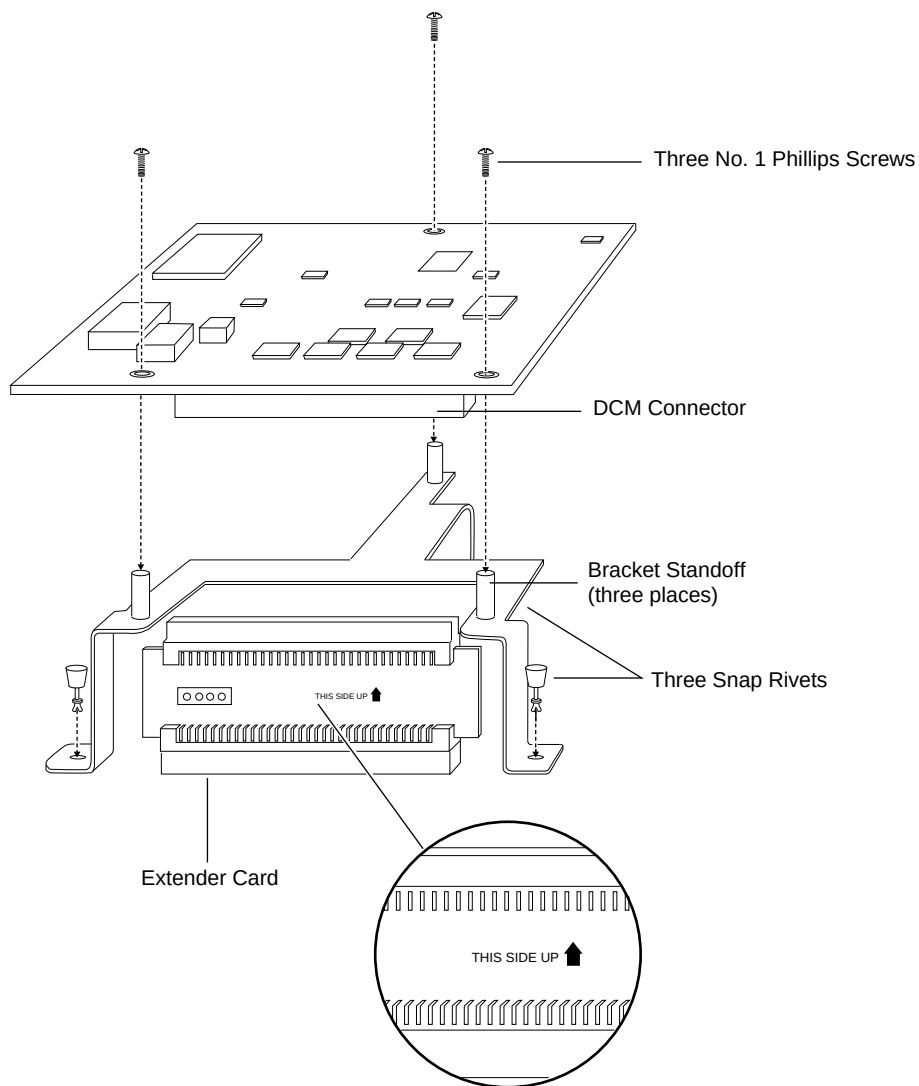

Figure 1-5. Mounting Bracket, Extender Card, and DCM Assembly
2. **Hold the extender card vertically so you can read the text “This Side Up” printed on its side (see callout in Figure 1-5).**
4. Align the DCM connector with the extender card connector and the DCM screw holes with the bracket's standoffs (Figure 1-5).